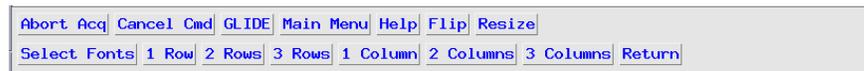

Figure 5. Windows Menu
1. Click **Main Menu, More, Windows**. The windows menu opens, as shown in **Figure 5**.